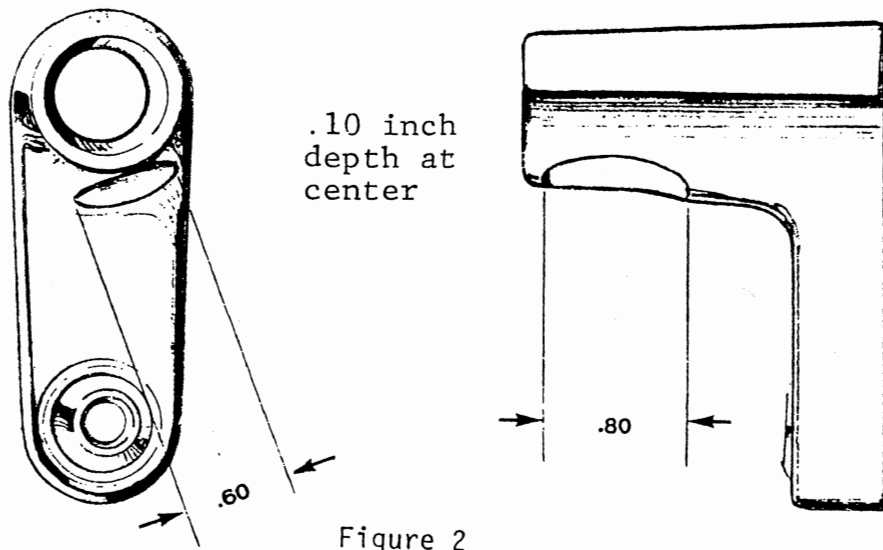

Figure 2
1. Using a half round file, carefully file the shackle in the area indicated in Figure 2. The dished out area should be .80" long, .60" wide and .10" deep (at center).
2. Install shackle assembly to forward right hand cabin mount. Reinstall spacers and washers per Figure 2 with teflon washers on each end of shackle.